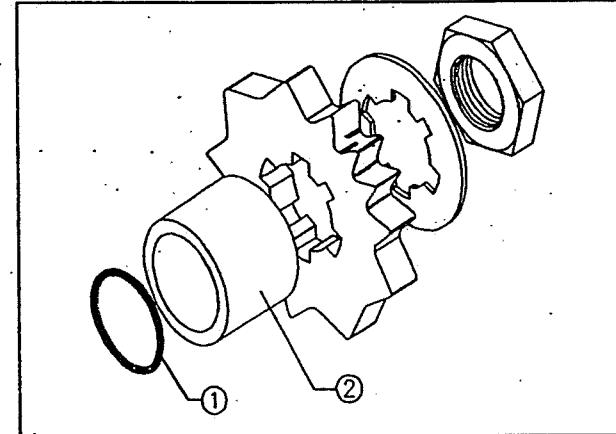

Fig 3.82
The 'O' ring (1) located next to the spacer (2) on the drive shaft is for sealing the clearance between the drive shaft and the spacer. (fig 3.82) Tighten the engine sprocket nut with specified torque by using special tool.